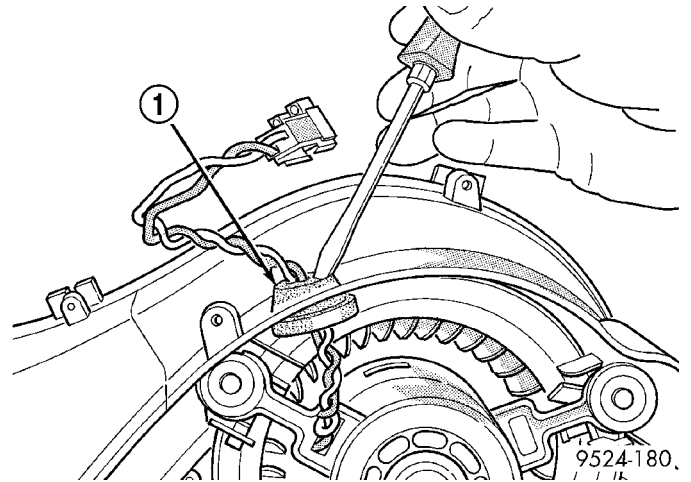

Fig. 7 Blower Motor Wire Lead Grommet
- 5 - UPPER SCREW (1)
- 9 - LOWER SCREW (4)
(9) Push the rubber blower motor wire lead grommet through the opening in the lower air inlet housing (Fig. 7).
(10) Feed the blower motor wire lead through the opening in the lower air inlet housing and remove the lower air inlet housing from the vehicle.
(11) Position the recirculation-air door as necessary to access and remove the three screws that secure the blower motor to the lower half of the HVAC housing.